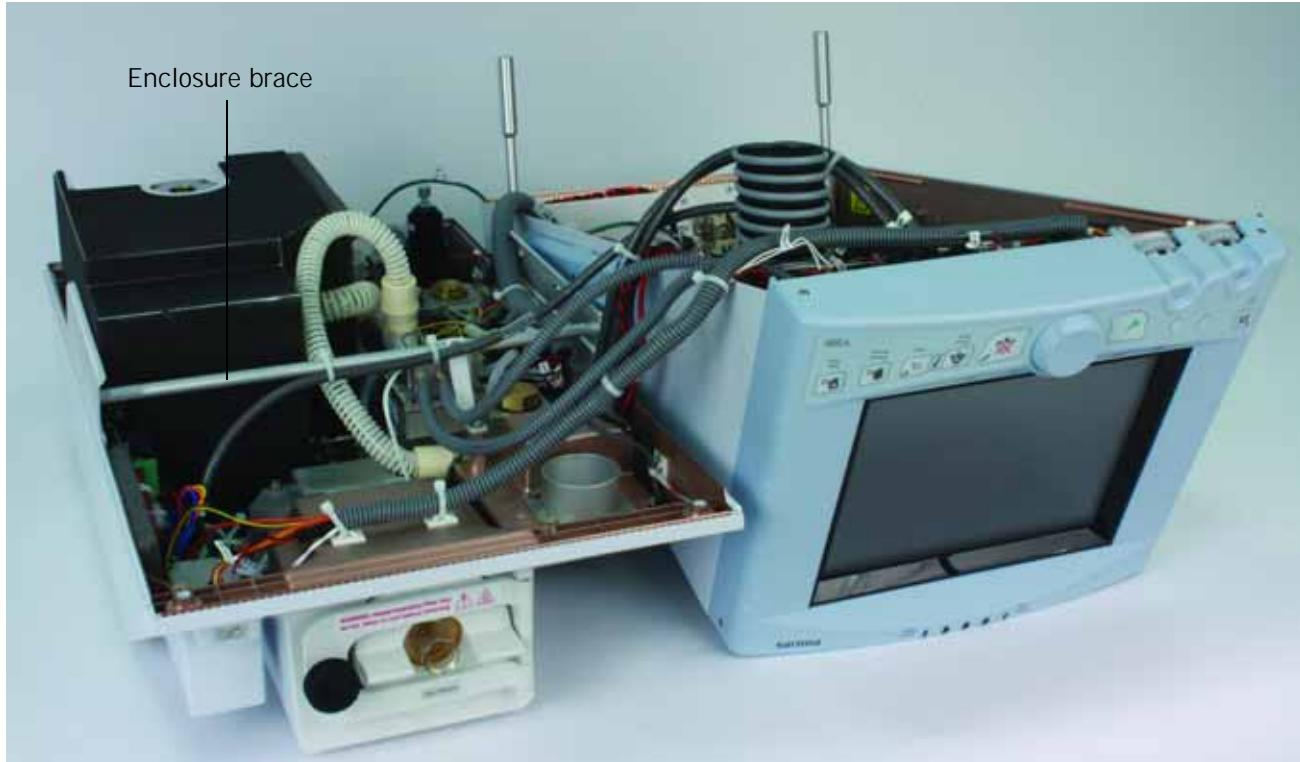

Figure 10-14: Enclosures Separated
5. Carefully lift the top enclosure. With all cables still connected, turn the enclosure upside down and place it beside the bottom enclosure (Figure 10-14).